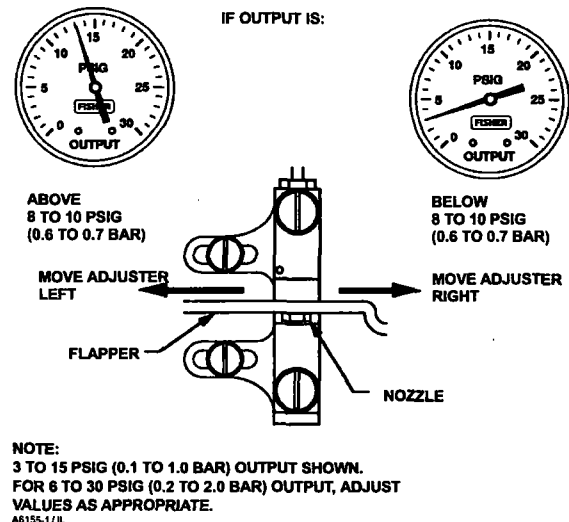

Figure 7. Reverse-Acting Controller Span Adjustment—Proportional-Only Controllers
9. If the output is not between 8 and 10 psig, adjust the controller span by loosening one of the two adjusting screws (key 43) and move the calibration adjuster (key 41) a small distance as indicated in figure 7.